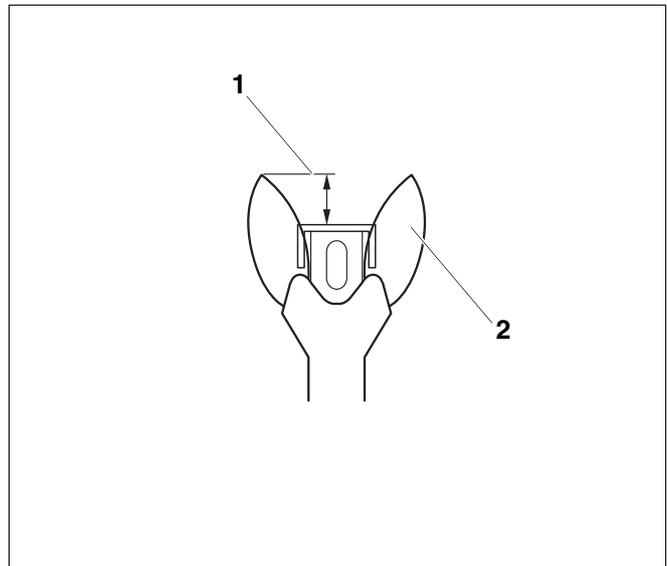
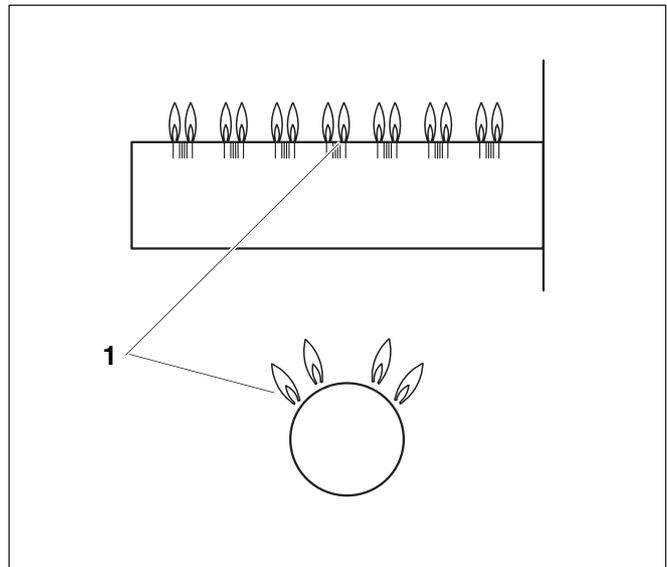

Fig. 41 Correct pilot flame setting
Fig. 42 Main burner
- 21. Test the safety switch by closing the gas valve. The main burner flame (→ Fig. 42) and the ignition flame (→ Fig. 41) are extinguished. After six (6) seconds at the most the main gas solenoid valve on the gas valve must close with an audible noise.